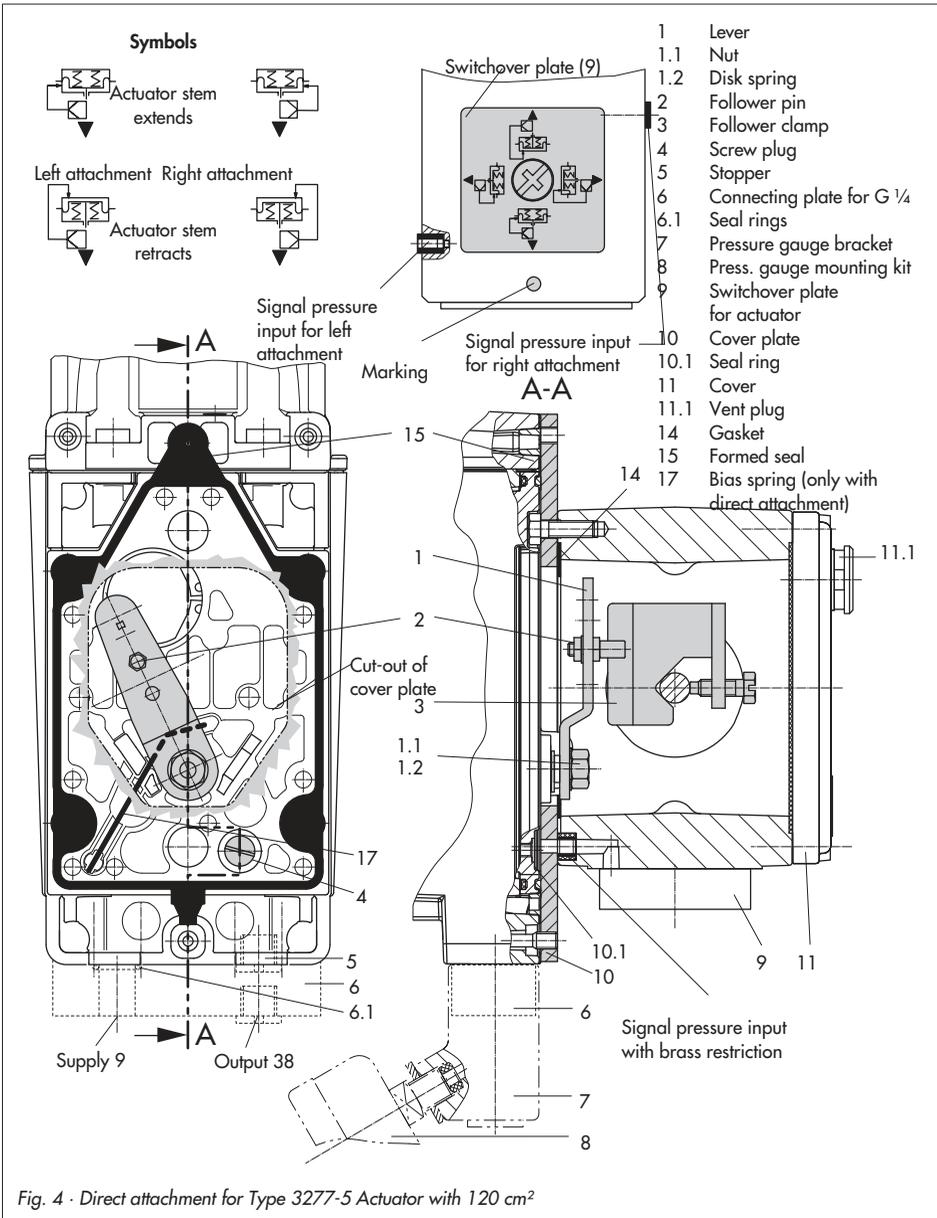

Fig. 4 · Direct attachment for Type 3277-5 Actuator with 120 cm2
1. Refer to Fig. 4 to select the symbol to match the required fail-safe position and how the positioner is attached:
2. Align the marking of the switchover plate (9) to the corresponding symbol and mount the plate on the actuator yoke.
3. If applicable, mount pressure gauge bracket (7) with pressure gauges or, in case G ¼ threaded connections are required, the connecting plate (6), making sure both seal rings (6.1) are seated properly.
4. Remove screw plug (4) on the back of the positioner and seal the signal pressure output "Output 38" on the connecting plate (6) or on the pressure gauge bracket (7) with the stopper (5) included in the accessories.
5. Place follower clamp (3) on the actuator stem, align and screw it tight so that the mounting screw is located in the groove of the actuator stem.
7. Mount cover plate (10) with the narrow side of the cut-out opening (Fig. 4, left) pointing towards the signal pressure connection. Make sure that the bonded gasket (14) points towards the actuator yoke.
8. **15 mm travel:** Keep the follower pin (2) at lever **M** (1) on the back of the positioner in the pin position **35** (delivered state).